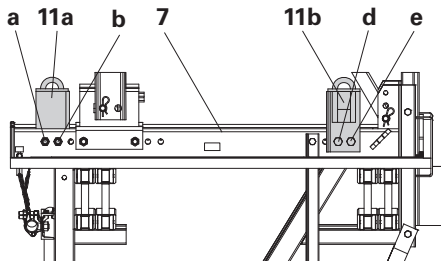

Fig. 9a
The Platform Connection CB 160 (Fig. 9a) can be attached to the Platform Bracket CB 160 (7) for positioning the working platform on the building. The Platform Connections CB 160 are subsequently removed.